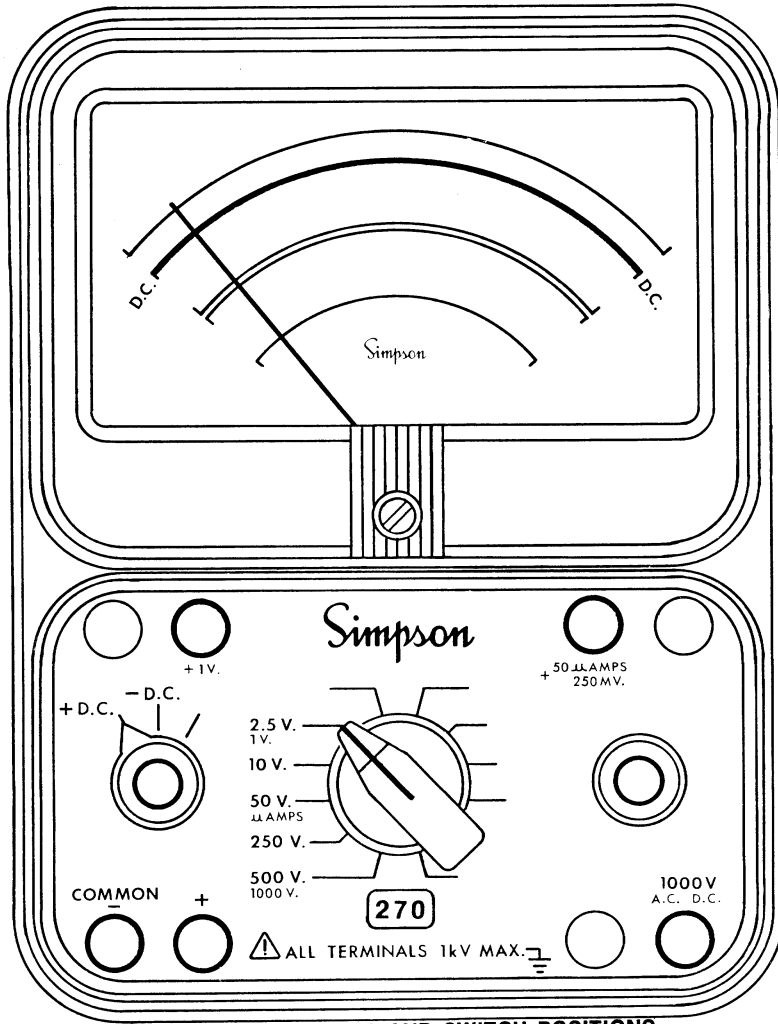

FIGURE 4-1. JACKS AND SWITCH POSITIONS FOR MEASURING DC VOLTAGE
- Set the function switch at +DC (Figure 4-1).